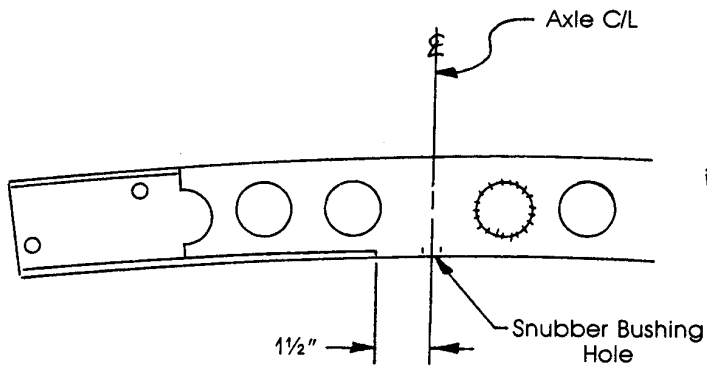

Figure 1
4. Note that on the underside of the frame rails are the rubber axle snubbers (or the holes for them) above the axle. Using the center of those holes, scribe a line around the rails. See Figure 1. This will be the axle center line. The wheelbase should be 114". As a final check, just to be safe, you could temporarily place a fender on the frame and stand a wheel in place in the opening, centering the wheel in the fender opening. Slide a bar or broom handle through the wheel center hole. It should fall on your correct axle centerline. If the crossmember is installed in the wrong place now, it can not be compensated for later. REMEMBER THE BASIC RULE-MEASURE TWICE, WELD ONCE.